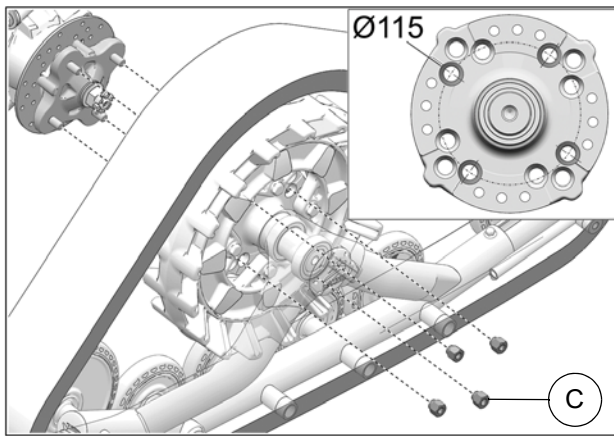

Fig. 9
8. Secure undercarriage to rear hub using the lug nuts (**C**) provided. Use bolt circle $\varnothing 115\text{mm}$. See Fig. 9